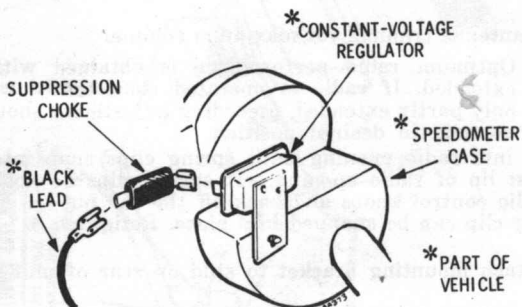

FIG. 3.
b. Install suppression choke to constant-voltage regulator located on speedometer case as shown in Figure 3.